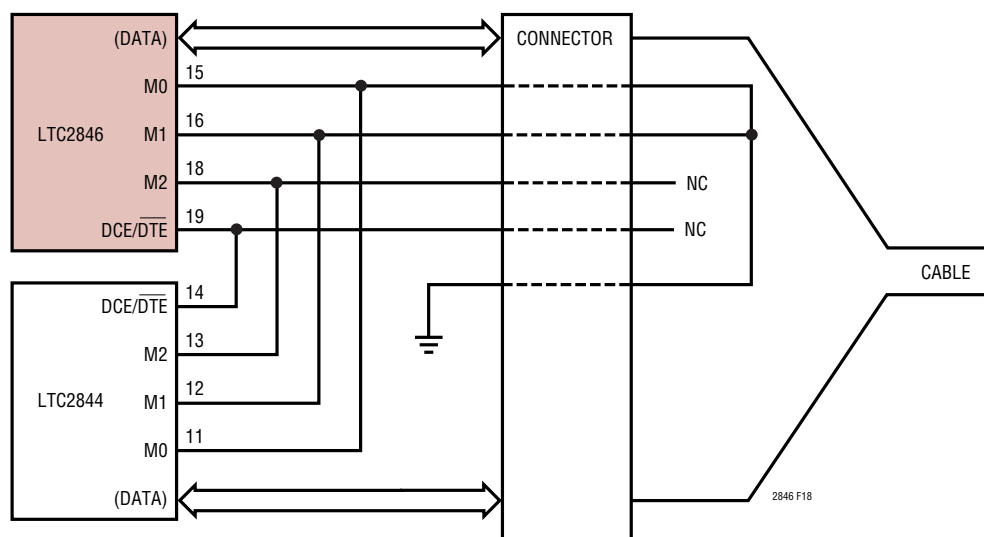

Figure 18. Single Port DCE V.35 Mode Selection in the Cable
The interface protocol may be selected simply by plugging the appropriate interface cable into the connector. The mode pins are routed to the connector and are left unconnected (1) or wired to ground (0) in the cable as shown in Figure 18. The internal pull-up current sources will ensure a binary 1 when a pin is left unconnected.